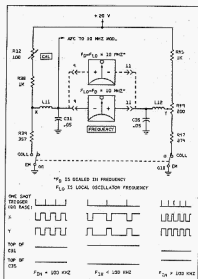

Figure 4-5. Frequency Meter Bridge Circuit
4.109 The bridge circuit includes the FREQUENCY meter on the front panel. A simplified schematic of the metering bridge circuit is shown in Figure 4-5. In this figure transistors Q8 and Q10 are shown as switches, one of which is always off when the other one is on.
4.112 For the conditions shown in Figure 4-5,
the switch that is on, Q10, causes the voltage at point Y to drop to a minimum (about .6 volts) and the switch that is off permits the voltage at point X to rise to a maximum (about 20 volts). The lower part of Figure 4-5 shows the waveforms at point X and Y. The time a switch is on equals the time it is off only when the input frequency is exactly 100 kHz; that is, when the pulse durations equal the times between pulses and represent a 50% duty cycle.